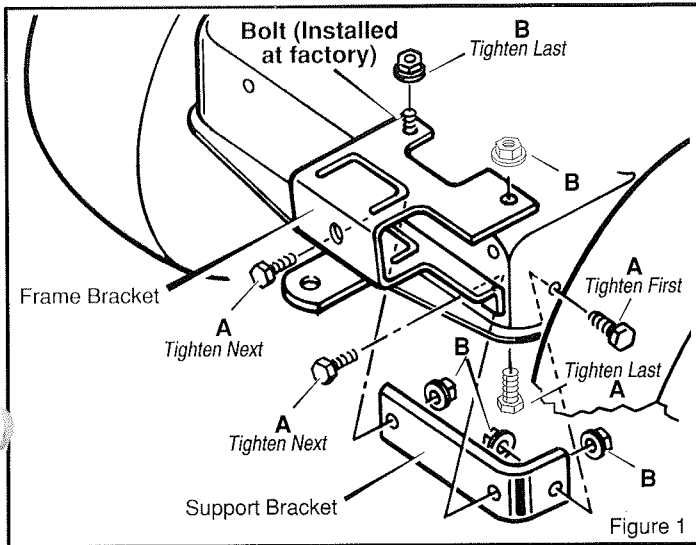

Figure 1
IMPORTANT: Note the bolt in Figure 1 that was installed at the factory. Use this bolt to attach the frame bracket.
1. Set the **frame bracket** in position on the rear of the frame (Figure 1). Use the **bolt** that was installed at the factory.
3. Carefully follow the procedure below to tighten the fasteners. This procedure is necessary to lock the **frame bracket** and the **support bracket** in place. See the procedure steps in Figure 1.